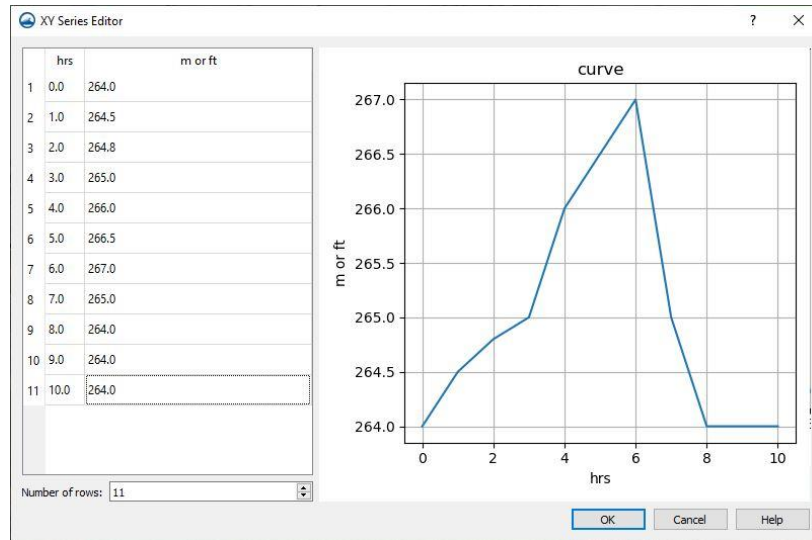

Figure 5 Variable WSE plot in the XY Series Editor dialog
12. Copy the values from the *Elevation (m)* column in the “VariableWSE.xls” file to the *m or ft* column in the *XY Series Editor* dialog. The plot should appear as in Figure 5.